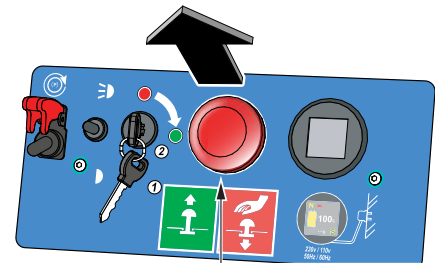

Figure 8. Emergency Stop Switch (Closed)
3. Locate the **emergency stop** switch on the control panel of the buggy (Figure 8). Pull this switch outward to start the electric motor.